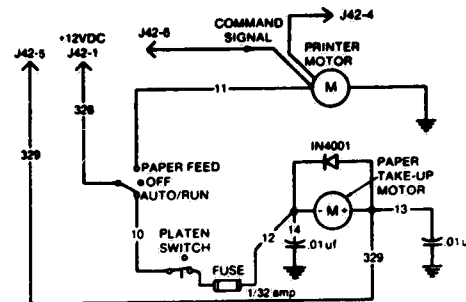

Figure 7-30. SWITCH AND MOTOR SCHEMATIC (Units Before 6/85).
4. See Figure 7-30 or 7-30A to rewire new switch.
7. See Figure 7-30 or 7-30A to rewire the new switch.
8. Replace motor. Rewire motor as shown in Figure 7-30.